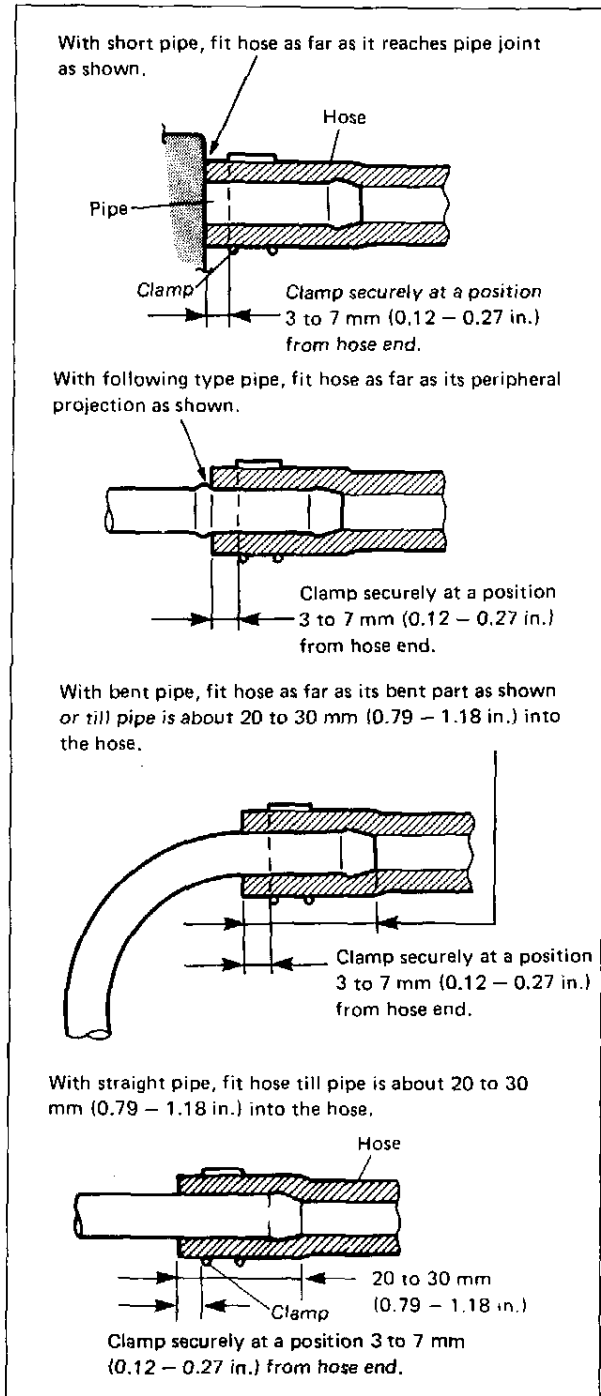

Fig. 3-2 Hose Connection
- Fuel or fuel vapor hose connection varies with each type of pipe. When reconnecting fuel or fuel vapor hose, be sure to connect and clamp each hose correctly referring to Fig. 3-2 Hose Connection. After connecting, make sure that it has no twist or kink.